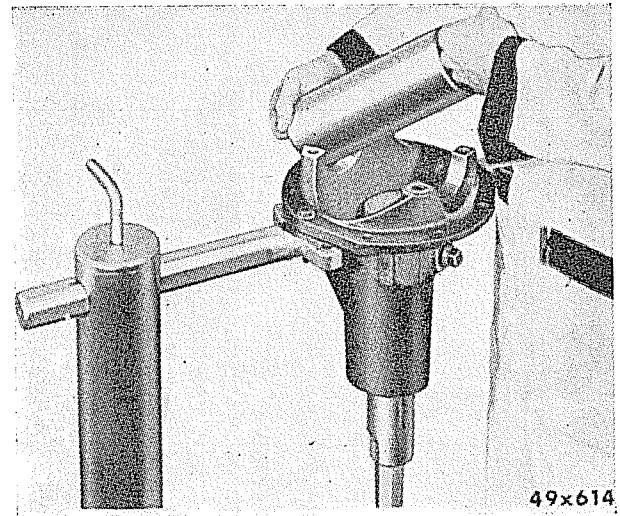

Fig. 13—Installing Cross Bore Gauge Bar.
- (b) Assemble cross bore gauge bar to carrier bearing supports (Figure 13). Tighten cap screws to hold bar in place.